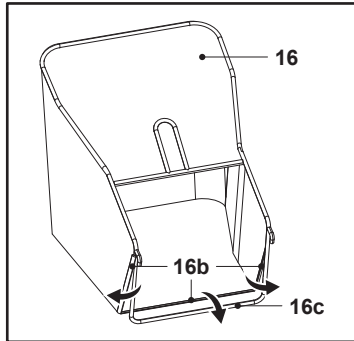

Fig. 5
1. Clip the three rubber clips (16b) onto the supporting rod (16c) of the grass catcher (16) (Fig. 5).
2. The grass catcher (16) is ready for use.